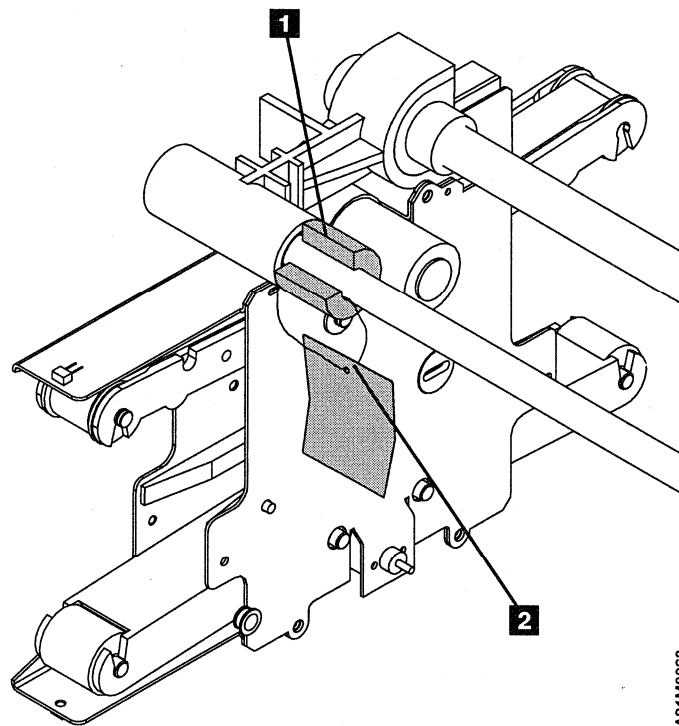

Figure 35. Orange Picker Stopper
- 5. Before turning on power, the orange stopper (see **1** in Figure 35) must be removed from the unit. The stopper is pressed on the rail to prevent the picker from moving during shipping. Do the following to remove the stopper:
- b. Look inside the unit and find the orange tag (see **2** in Figure 35) that is attached to the stopper. The orange tag will assist you in finding the orange stopper.